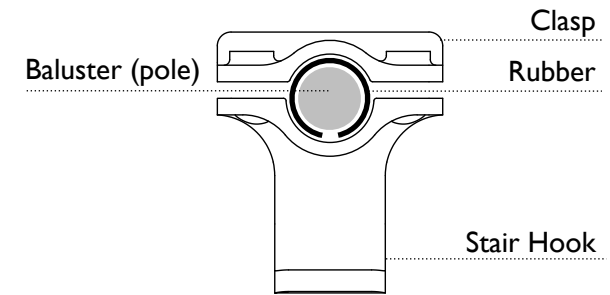

Figure 1 - Installation
4. Bring Stair Hook and Clasp together around the rubber which surrounds the baluster (Figure 1). Orient Clasp such that its flange / strengthening rib is at the bottom.
5. Slide provided bolts through the Stair Hook and thread into nuts which are slotted into Clasp. Use a Phillips (or Pozidriv) screwdriver to tighten the bolts. Bolts should be torqued to 7nm (hand-tight, do not over tighten). Ensure Stair Hook and Clasp remain parallel to one another and do not make contact with one another (Figure 1).